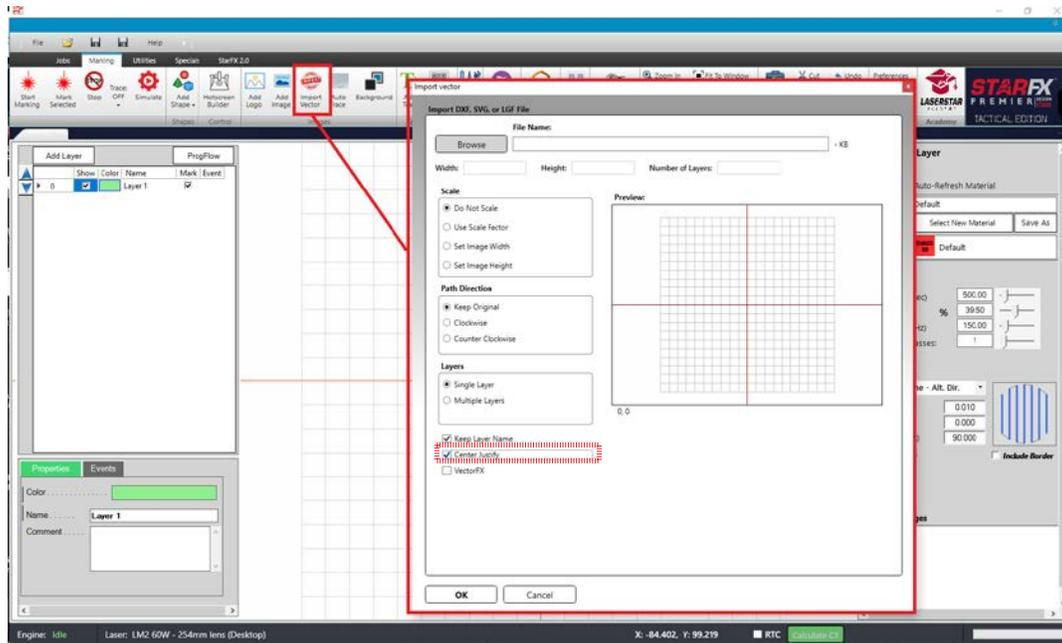

Figure 19
5. On the main screen, select the shape, then select Center Justify on the Main Ribbon to force the crosshair to the center of the screen. **(Note: This can be done during import as well, as shown in the hashed box on Figure 19.)**